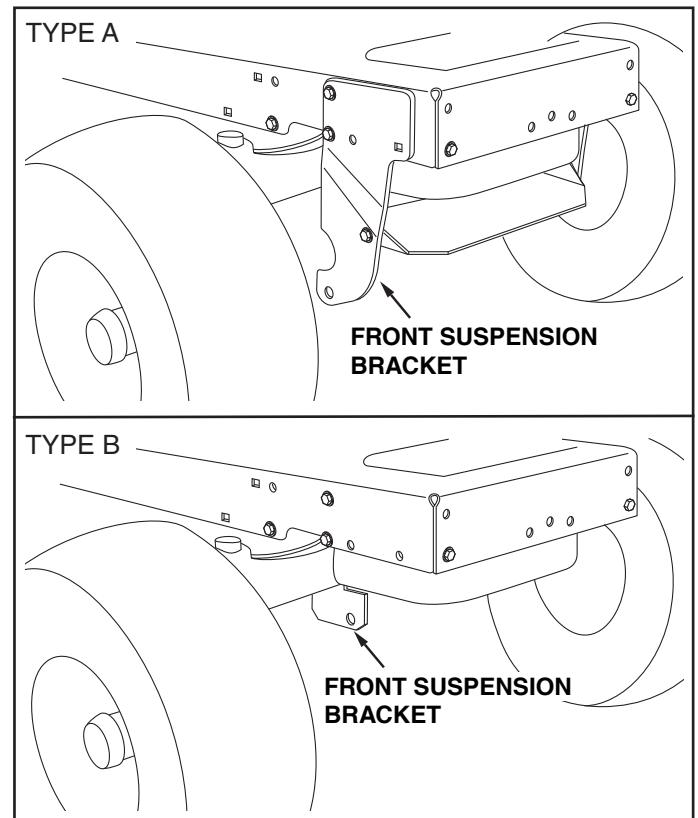

FIGURE 4
7. Compare your tractor to the tractors shown in figure 4. If your tractor resembles "TYPE A" go to step 8. If your tractor resembles "TYPE B" go to step 12.